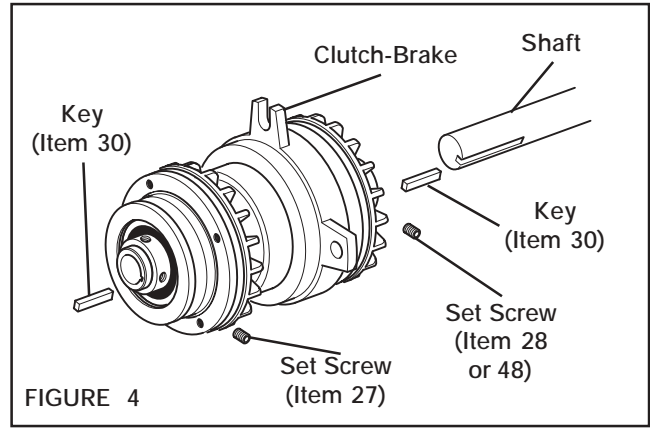

FIGURE 4
1. Insert the first Key (Item 30) into the shaft (See Figure 4).
2. Slide the Clutch-Brake onto shaft and key; then, insert the second Key (Item 30) (See Figure 4).
3. Tighten Set Screws (Items 27 and 28) to the recommended torque (See Table 4 and Figure 4).
5. Fasten one of the ears of the Clutch-Brake to a fixed member of the machine (See Figure 4).